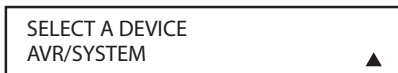

Figure 106.
5. The next screen that appears (**Figure 106**) is where you select the device for the first command that will be sent out as part of the macro. Press the **▲/▼ Navigation Button 16** until the name of the device appears on the left side of the lower line in the LCD. For this example, the first button we want to have the macro "press" is the AVR Power On button, so the AVR is selected. Press the **Set Button 18** when the desired device name appears, to move to the next programming step.